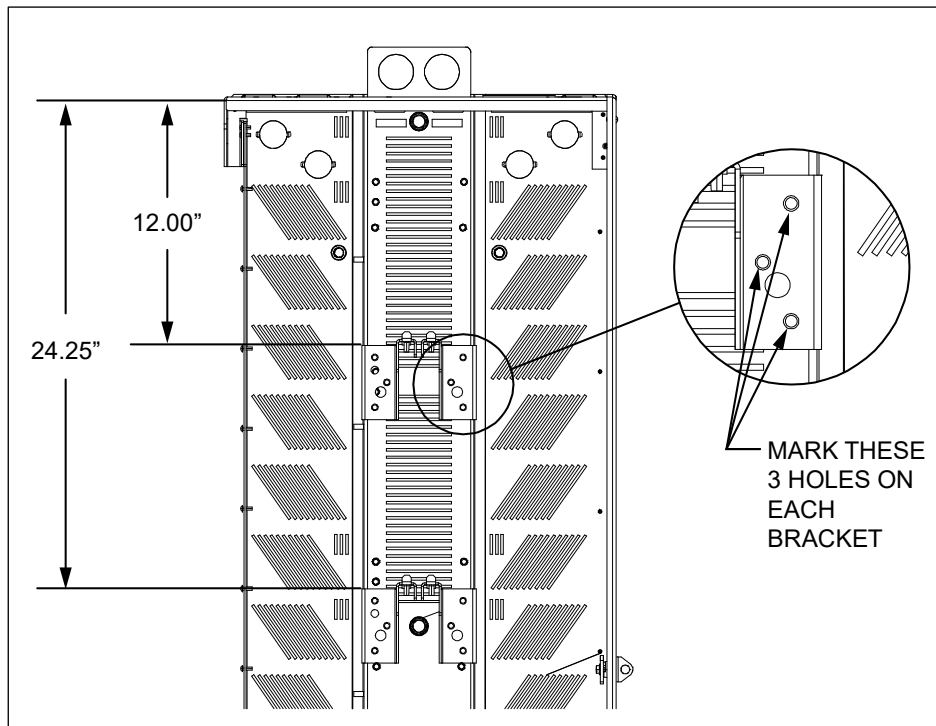

Figure 6 Hanging Brackets
1. Hold the brackets against the central spine with the bracket flange snug against the side of the spine (Figure 6). Make sure that each pair of brackets is horizontally level to each other, and that each pair is positioned at the distance shown from the top of the SHRD60.
2. Mark the locations of the mounting studs on the bracket flanges indicated (Figure 6, three holes per bracket). Set the brackets aside.